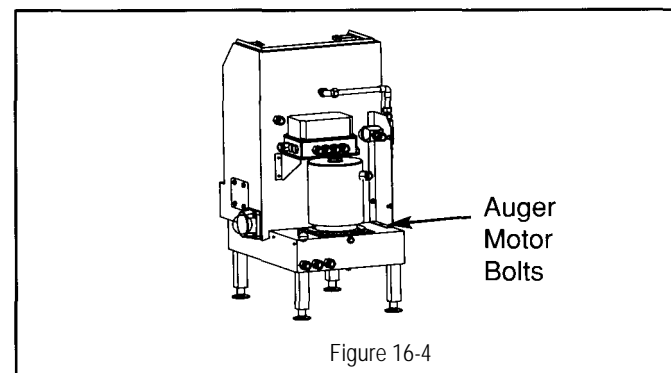

Figure 16-4
8. Remove four bolts and washers securing auger motor to bracket (see figure 16-4).